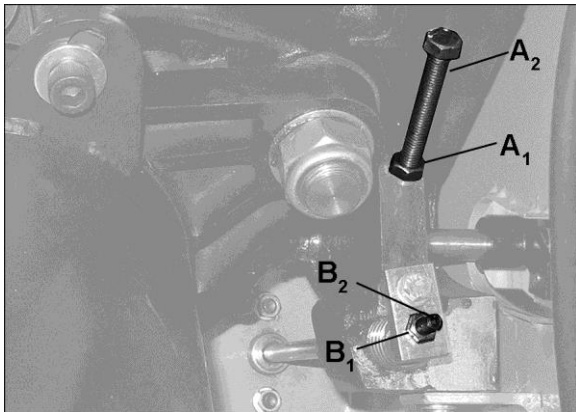

Figure 20
5. If adjustment is required, loosen nut (A_1 , Figure 20) on 90° stop screw (A_2) with a 12mm wrench, and turn screw to proper height. Verify setting and retighten nut.